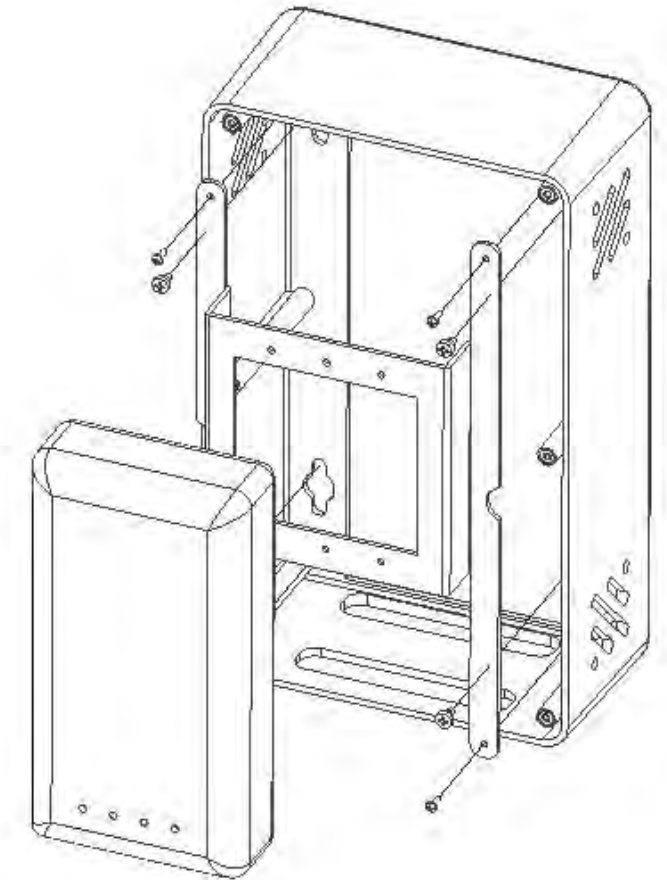

Figure 3 – Access Point Install To Mounting Bracket
Step 4 – Fasten the AP Mounting Bracket to the enclosure embosses using the provided #2 screws. If a surface mount box is installed, attach the equipment cord from the surface mount box to the access point. Otherwise, attach the Ethernet cable directly to the access point through the bottom cutout and attach the access point to the AP Mounting Bracket using the manufacturer's specified mounting plate (Figure 3).